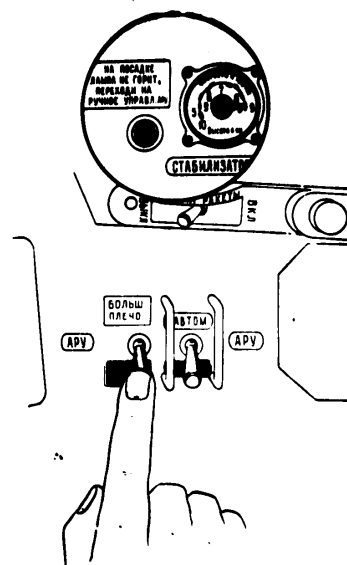

Fig. 4. How to check the stabilizer control in "Ручное" position.
- set the APY-2 selector switch in "Ручное" position and briefly the push switch turn the APY red in small arc position; the green light will die out and the indicator pointer will be extreme right (Fig. 4).